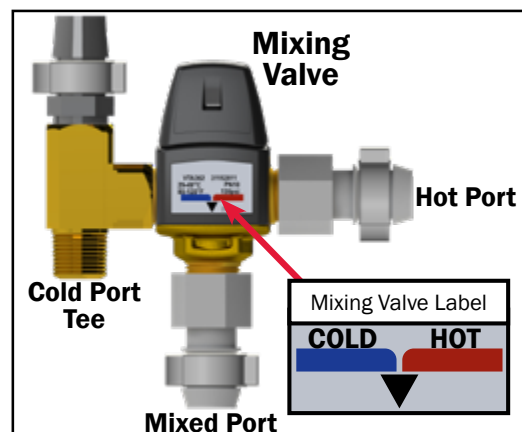

Figure 10
- Connect port 3 of the check valve to the hot port of the mixing valve. The hot port is denoted by a red line on the label of the mixing valve (Figure 10).
- Connect port 4 of the check valve to the tee fitting on the cold port of the mixing valve. The cold port is denoted by a blue line on the label of the mixing valve (Figure 10).